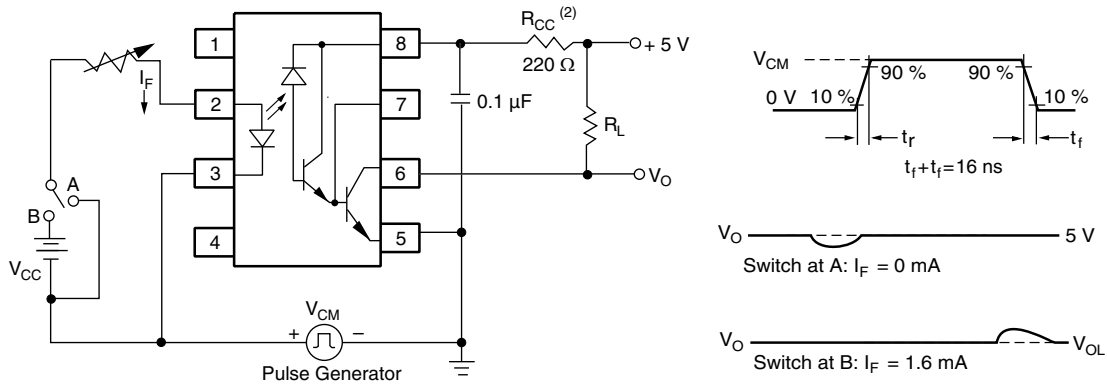

Fig. 2 - Test Circuit for Transient Immunity and Typical Waveforms
- (2) In applications where  $dv/dt$  may exceed  $50 \text{ 000 V}/\mu\text{s}$  (such as state discharge) a series resistor,  $R_{CC}$  should be included to protect  $I_C$  from destructively high surge currents. The recommended value is refer to figure 2.